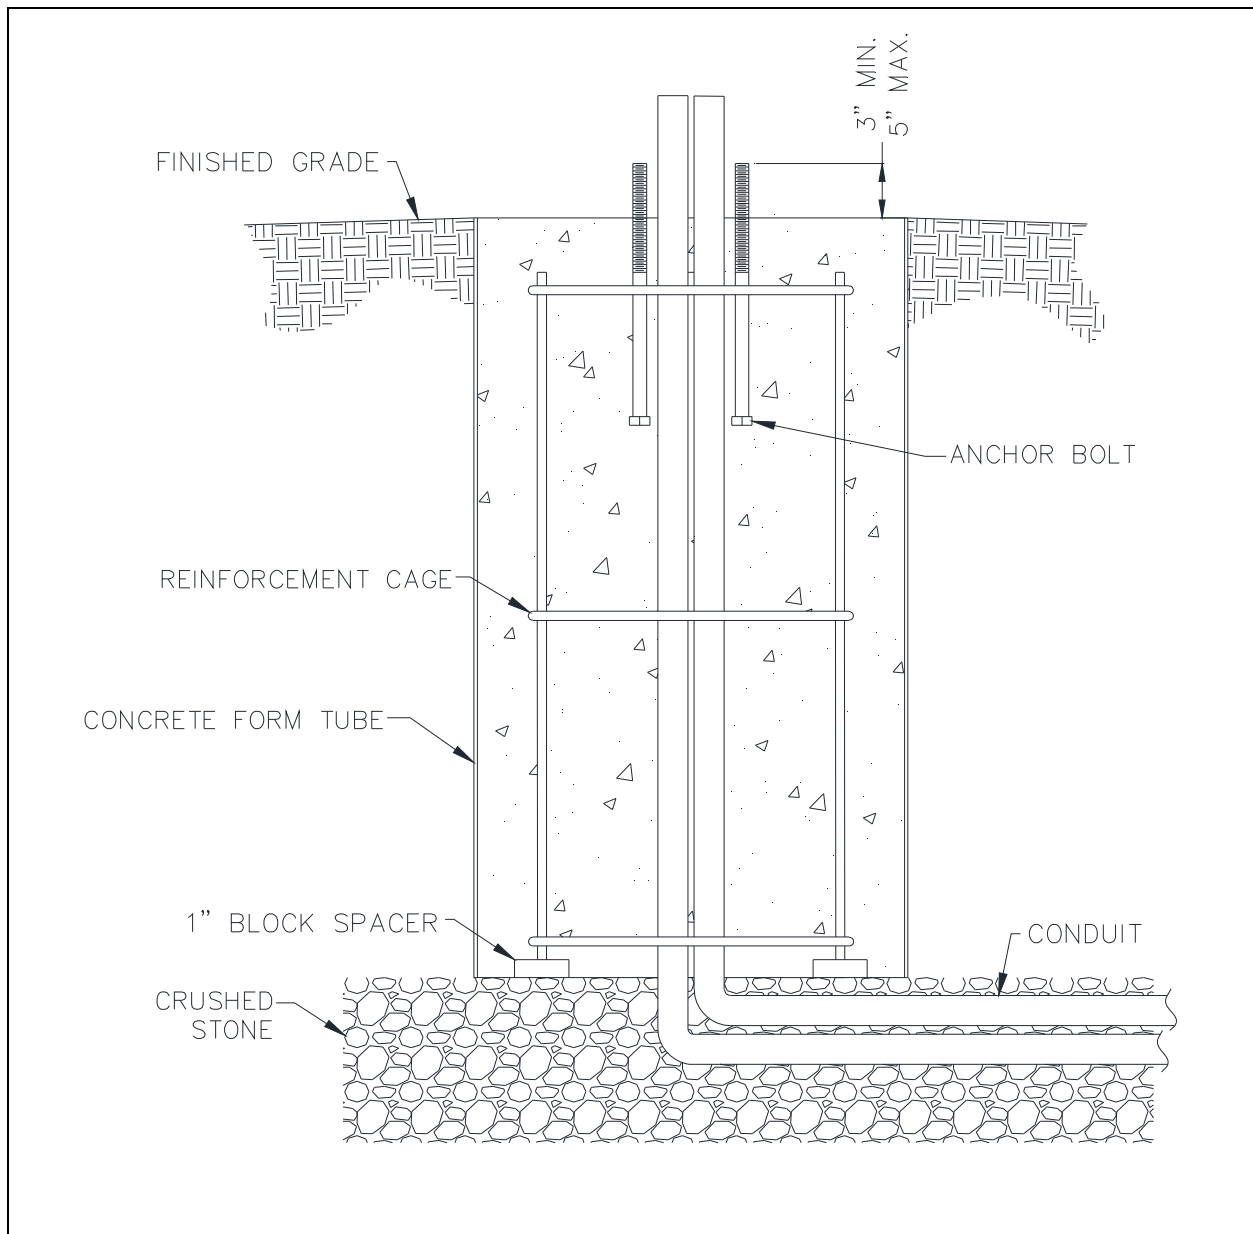

Figure 5. Concrete Pier Cross Section
3. Install the four anchor bolts so that they extend at least three inches above the top surface of the pier (see Figure 5 for the bolt protrusion dimension).